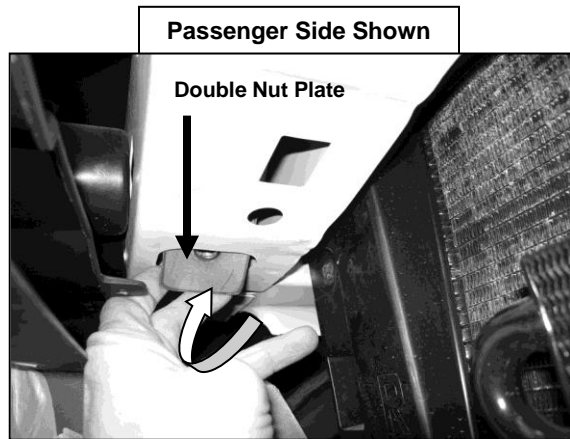

Figure 2
3. Through bumper air inlet, insert passenger side Double Nut Plate through existing hole on the radiator support (Figure 2). Center holes on the Double Nut Plate with holes on the radiator support.